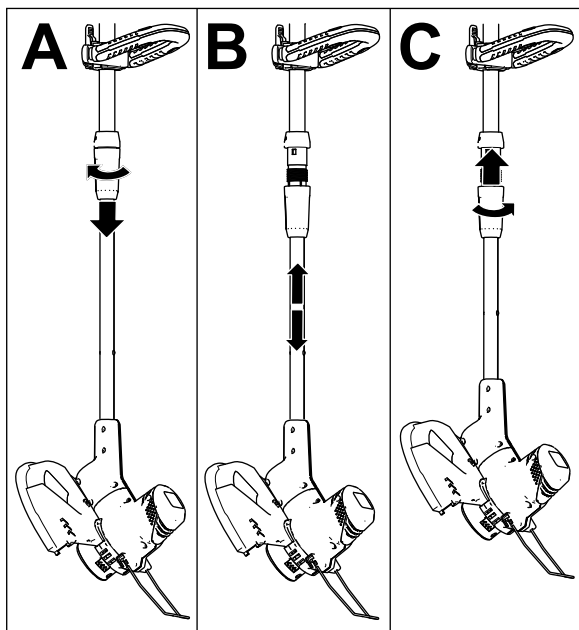

Figure 13
1. Loosen the lower shaft connector (A of Figure 13).
2. Slide the telescoping shaft to your desired position (B of Figure 13).
3. Tighten the handle connector to secure the handle (C of Figure 13).